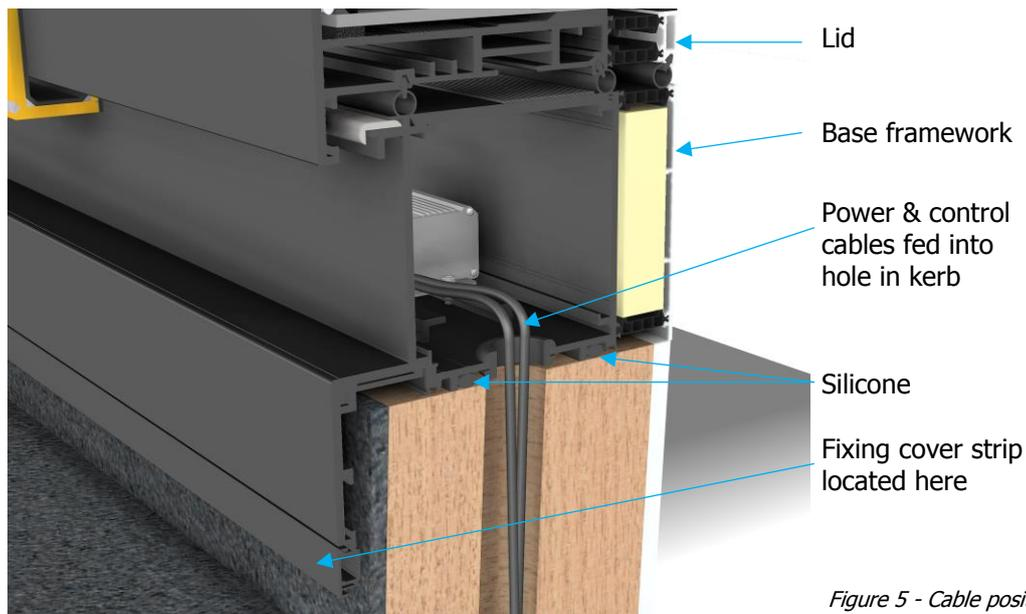

Figure 5 - Cable positions
6. Feed the power and control cables from the base framework into the hole in kerb (*Figure 5*). If BMS integration option was purchased, there will be a third cable.